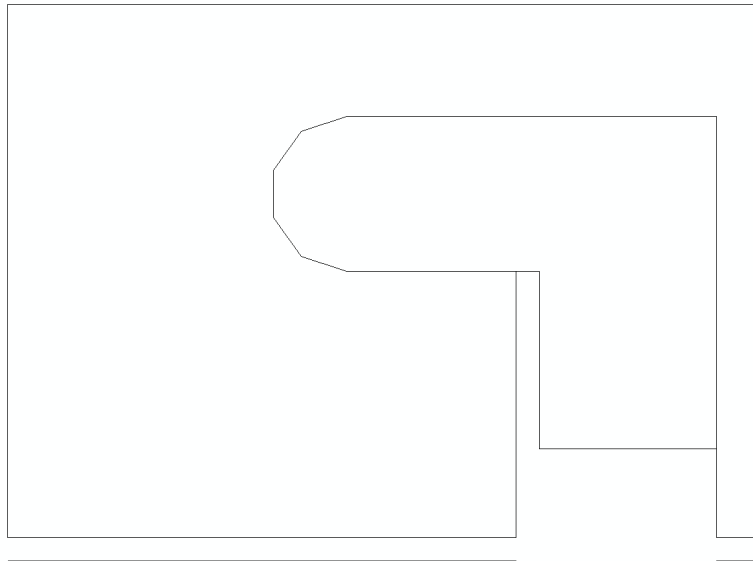

Figure 4-68
18. Using *Draw|Line|Continuous* specify the property boundary so that it looks like Figure 4-68. Select *Right-click|Snaps|Endpoint*. Place the cursor at the left top of the sidewalk left click and type **69,<90 (21,<90)** and press <Enter>. Now type **98,<0 (30,<0)** and press <Enter>. Select *Right-click|Snaps|Endpoint* then left click near the sidewalk to place the line the sidewalk on the right hand side of the house. Select *Right-click|Restart*. Select *File|Save* and save the design.